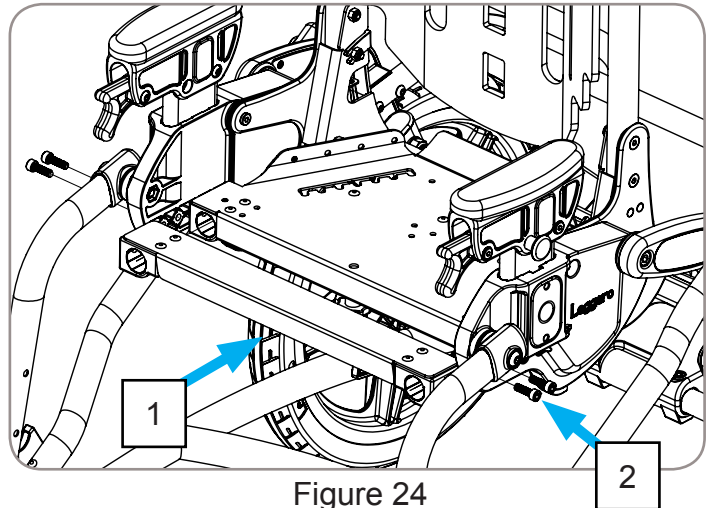

Figure 24
4. Install seat extension **1** using 4 socket head bolts **2**. 5mm hex wrench required. Reference Figure 24.